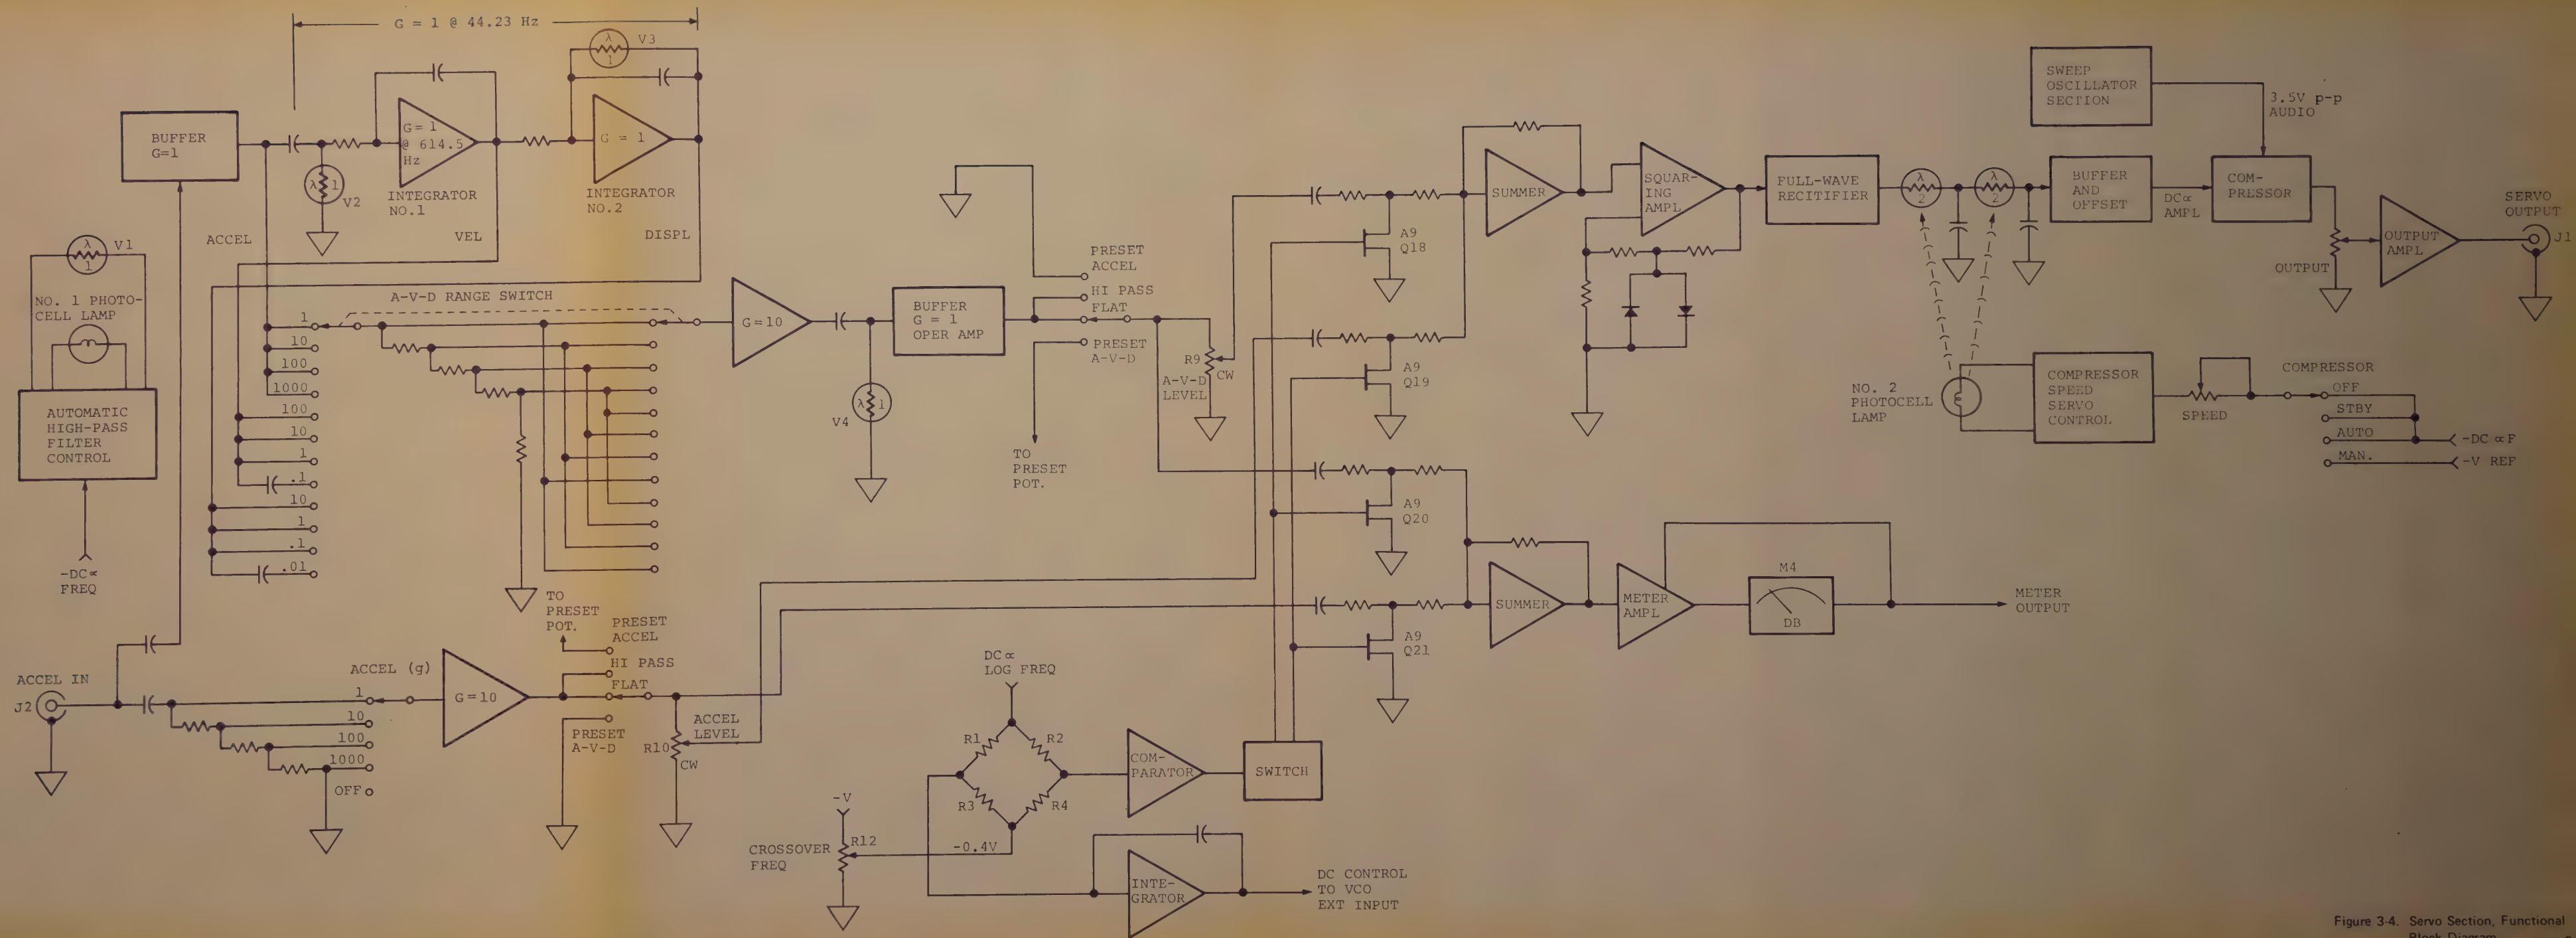

Figure 3-4. Servo Section, Functional Block Diagram
This section electronically processes the output from an accelerometer to develop a-c signals proportional to velocity (V) and displacement (D). (See Figure 3-4.) The desired type of control (A, V, or D) and level are selected by the A-V-D range switch/attenuator and associated LEVEL control.